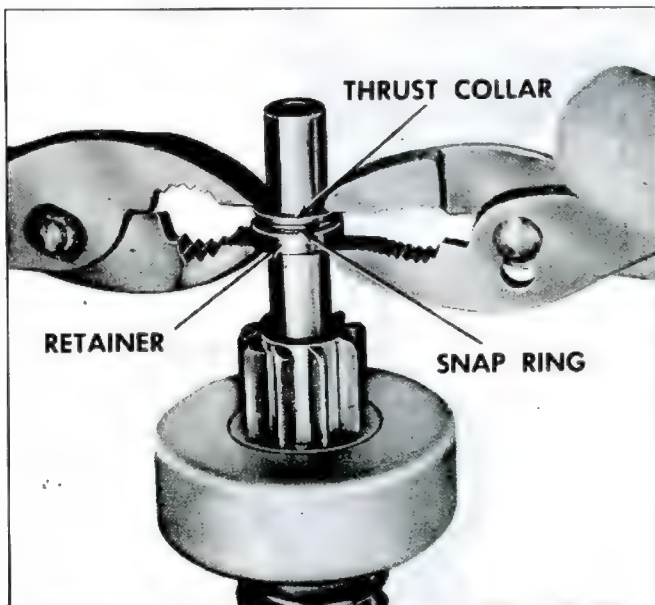

Fig. 10s—Forcing Snap Ring into Retainer
- f. Place armature flat on work bench, and position retainer and thrust collar next to snap ring. Then, using two pair of pliers at the same time (one pair on either side of shaft), grip retainer and thrust collar and squeeze until snap ring is forced into retainer (fig. 10s).